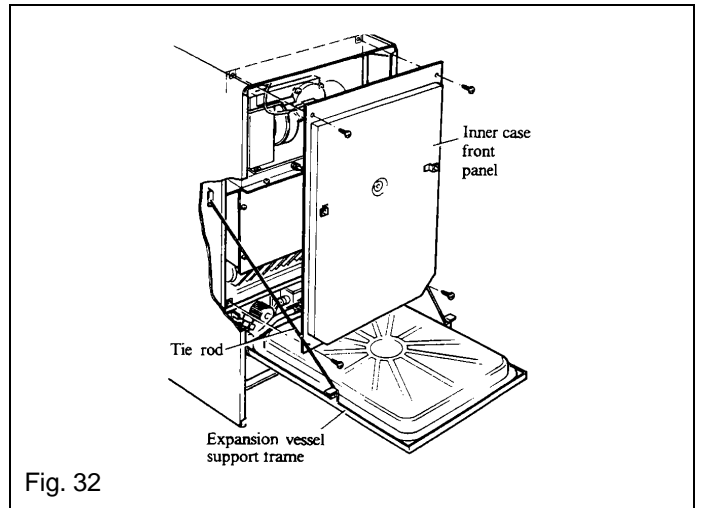

Fig. 32
Refer to Figs. 32, 33 and 34.
3. Remove the two tie rods from the retaining clips on the front of the expansion vessel frame and remove the split pins from the ends of the rods. Remove the two screws securing the expansion vessel support frame to the inner case front panel. Hook the plain ends of the tie rods into the brackets on the sides of the boiler. Carefully lower the expansion vessel and frame (hinged at the bottom). Locate the other ends of the tie rods in the brackets on the expansion vessel frame, then pass the split pins through the ends of the rods to secure them in place. See Fig. 32.
4. Remove the four screws (two at the top and two at the bottom) securing the inner case front panel and lift off the panel. See Fig. 32.
Refer to Figs. 32 and 35.
boiler. All necessitate the removal of the inner case front panel, see Fig. 32, as follows:
- b. Remove the two tie rods from the retaining clips on the front of the expansion vessel frame and remove the split pins from the ends of the rods. Remove the two screws securing the expansion vessel support frame to the inner case front panel. Hook the plain ends of the tie rods into the brackets on the sides of the boiler. Carefully lower the expansion vessel and frame (hinged at the bottom). Locate the other ends of the tie rods in the brackets on the expansion vessel frame, then pass the split pins through the ends of the rods to secure them in place. See Fig. 32.
- c. Remove the four screws (two at the top and two at the bottom) securing the inner case front panel and lift off the panel. See Fig. 32.